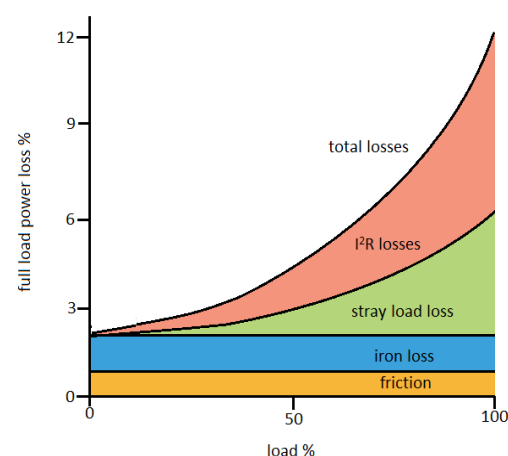

Figure 2: Losses in different parts of a motor.
5. Referring to Figure 2, for which two types of losses are all of the following statements true?